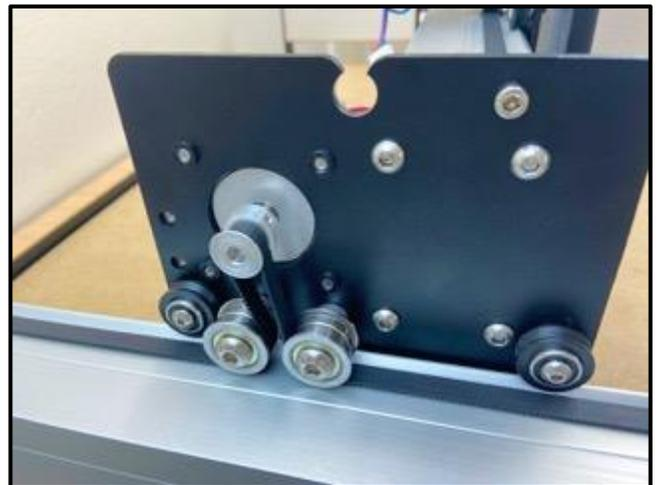

Figure 5-15
7. Make sure the belt has not twisted and the teeth are still facing down, then place the belt loop over the Y1-motor pulley. See *Figure 5-15*.